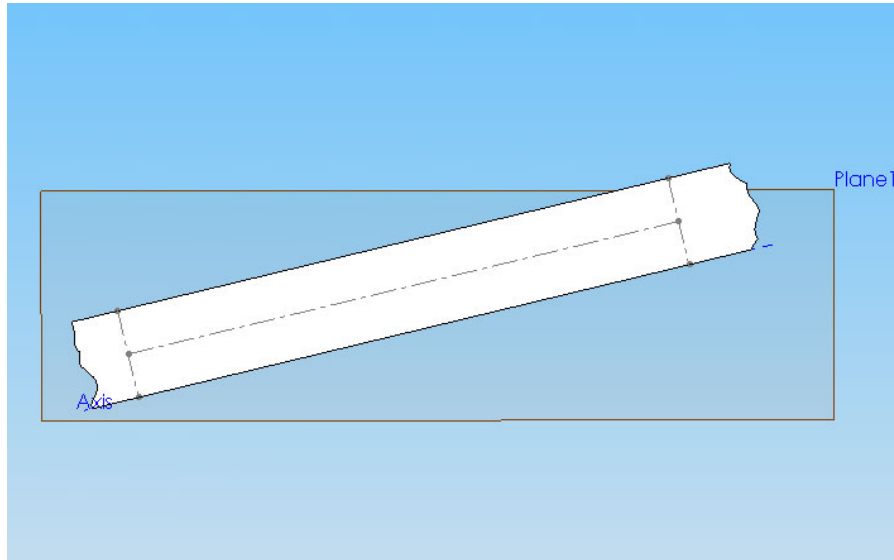

Figure 5.
5. To unwrap your tube, simply suppress Process-Bends in your feature manager. Create a sketch like the one shown in Figure 5 to allow you to orient your ends properly. Now under *Standard Views* select *Normal To* and select the surface of your tube. Make sure you're plane is underneath the unwrapped tube. Use the arrow keys if you need to rotate